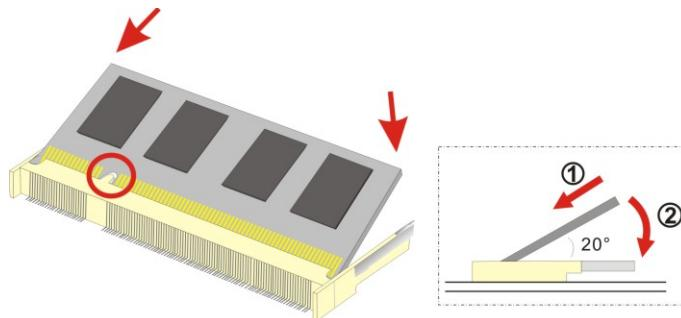

Figure 4-4: SO-DIMM Installation
To install an SO-DIMM, please follow the steps below and refer to **Figure 4-4**.
Step 3: Insert the SO-DIMM. Push the memory in at a 20° angle. (See **Figure 4-4**)
Step 4: Seat the SO-DIMM. Gently push downwards and the arms clip into place. (See **Figure 4-4**)